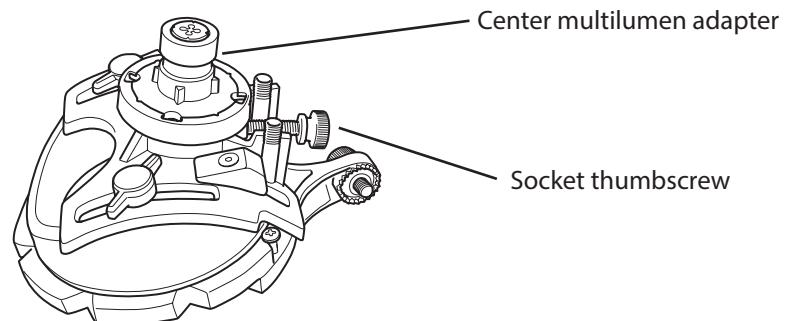

Figure 18. Attach the center multilumen adapter aligned to the patient anatomy.
2. Remove the center alignment adapter and attach the center multilumen adapter (Figure 18) with the lumen pattern aligned to the patient anatomy.